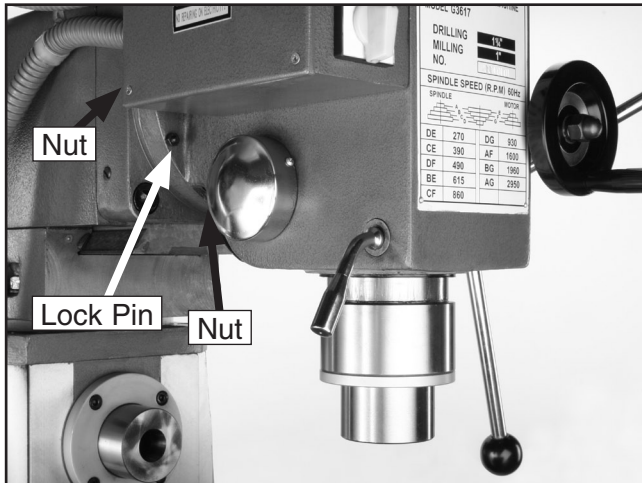

Figure 23. Vertical rotation of head components.
2. Loosen the three nuts that lock the spindle in place (see **Figure 23**).